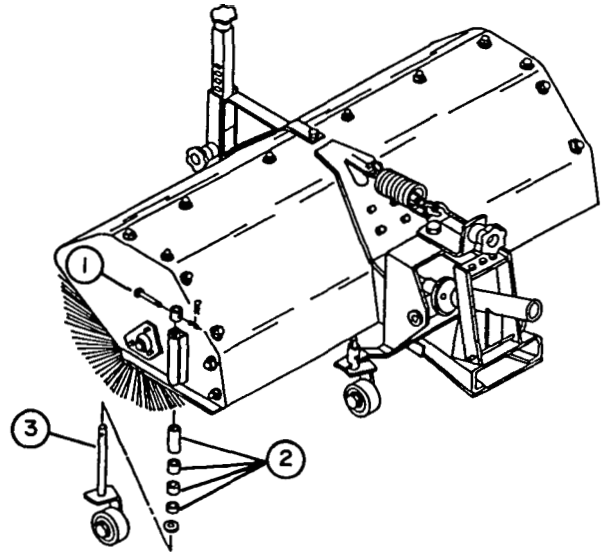

FIGURE 5
- a) Remove pin (fig.5, item 1) and hairpin from each caster wheel (fig.5, item 3). Select desired number of spacer sleeves (fig.5, item 2) to remain on bottom portion of caster wheel (see application page 10) ■
- b) Remove parking stands (fig.1, item 1) and replace them with the caster wheels (fig.5, item 3). Place remaining spacer sleeve(s) over caster wheels on upper side of stand supports, and secure caster wheels with pins (fig.5, item 1) and hairpin.